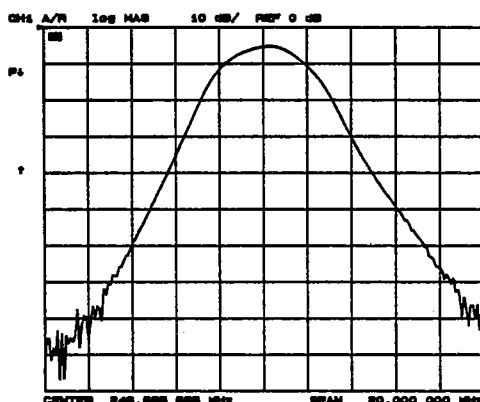

Figure 3-112. Source Third IF Converter 86.6 MHz BPF Adjustment Example
7. Adjust A40L10, and L16 (86.6 MHz BPF 3 ADJ) until the level at the center frequency (246.666 666 MHz) on the Network Analyzer is maximum, and the BPF frequency characteristics are similar to that shown in Figure 3-112.